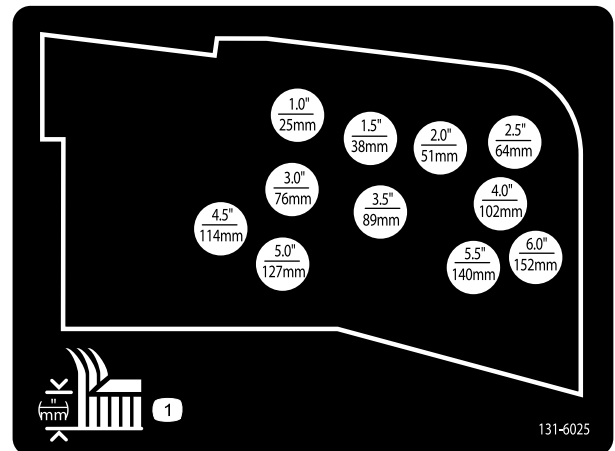

Figure 21
- 10. Mount the height-of-cut chains to the desired height-of-cut hole with the clevis pin and hairpin cotter (Figure 21).